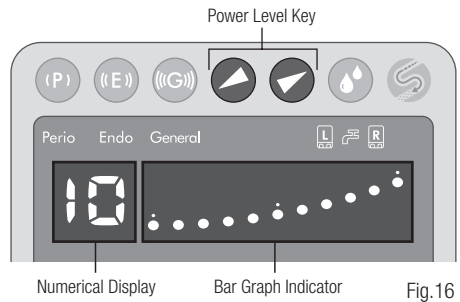

Fig.16
- 2) Set the power level with the Power Level Key on the Front Panel. The Bar Graph Indicator and Numerical Display will indicate the selected power level. (Fig. 16) Make sure the power level is set in the appropriate range for the attached Tip.